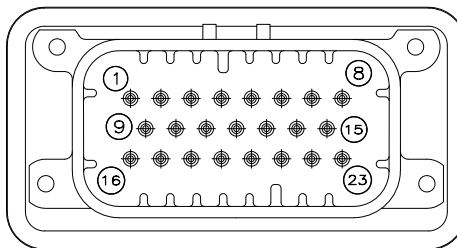

Figure 2: SMART-MR10 Connector
2. Establish a physical communication connection between the SMART-MR10 and the PC/laptop. Connect the COM and Power port on the back of the SMART-MR10, see *Figure 2* below, to a DB-9 serial port on a PC, laptop or other data storage device.